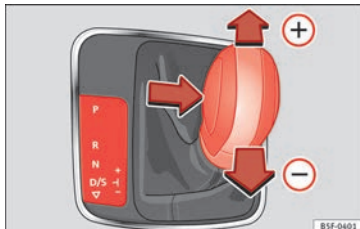

Fig. 171 Changing gear with Tiptronic.
- Lightly press the selector lever forward »» Fig. 171 (+) to change up to a higher gear.
- Lightly press the selector lever backward »» Fig. 171 (-) to change down to a lower gear.